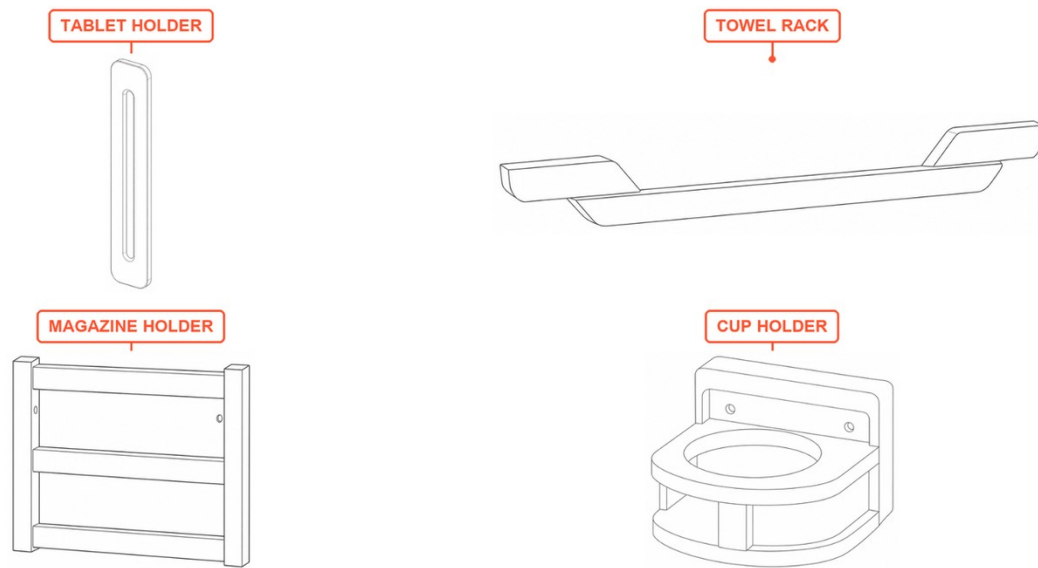

Figure 24. Accessories: tablet holder, towel rack, magazine holder, cup holder.
- Choose a mounting location for each accessory (Figure 24: cup holders, magazine holder, towel rack, and tablet holder) on an interior wood surface with solid backing, clear of wiring, lighting, controls, heater components, the door, and vents. Accessories must not interfere with normal movement in the sauna.